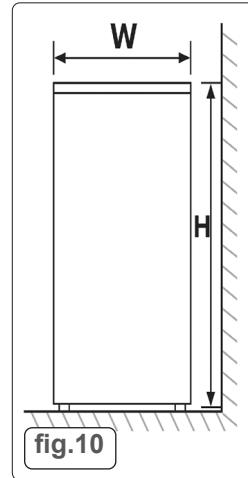
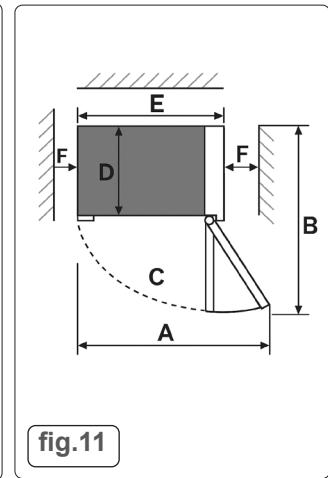

fig.10
fig.11
- NOTE:** Fig.10, Fig.11 illustrate the space required around the unit installation.